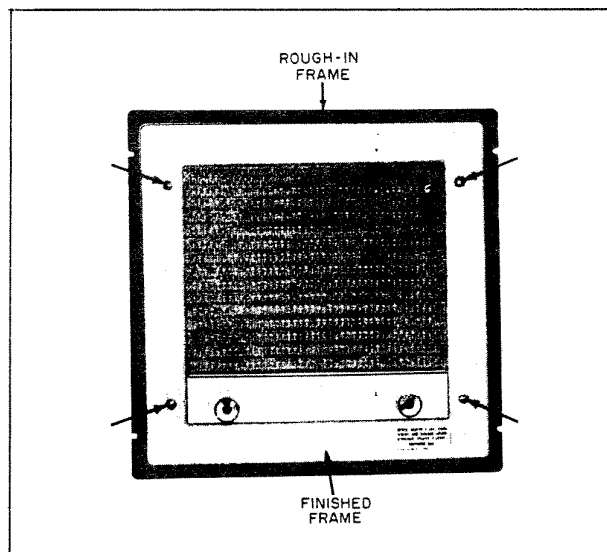

Fig. 14. Finished frame assembly of outside-installed Model 2020 remote speaker station.
4. Align holes in the finished frame with the holes in the rough-in frame. Fasten frame in place with four mounting screws previously removed under Step 1 above and shown by arrows in Fig. 14.